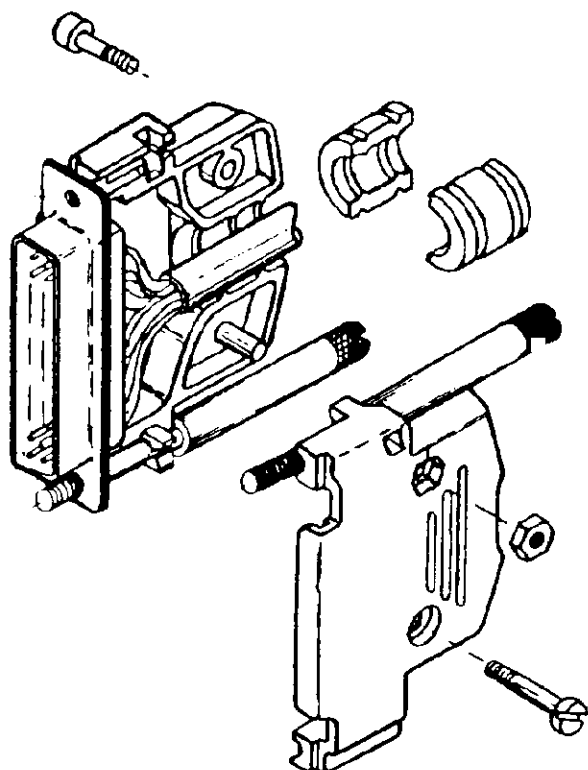

Figure 3
3. ASSEMBLY PROCEDURE (Figures 3 and 4)